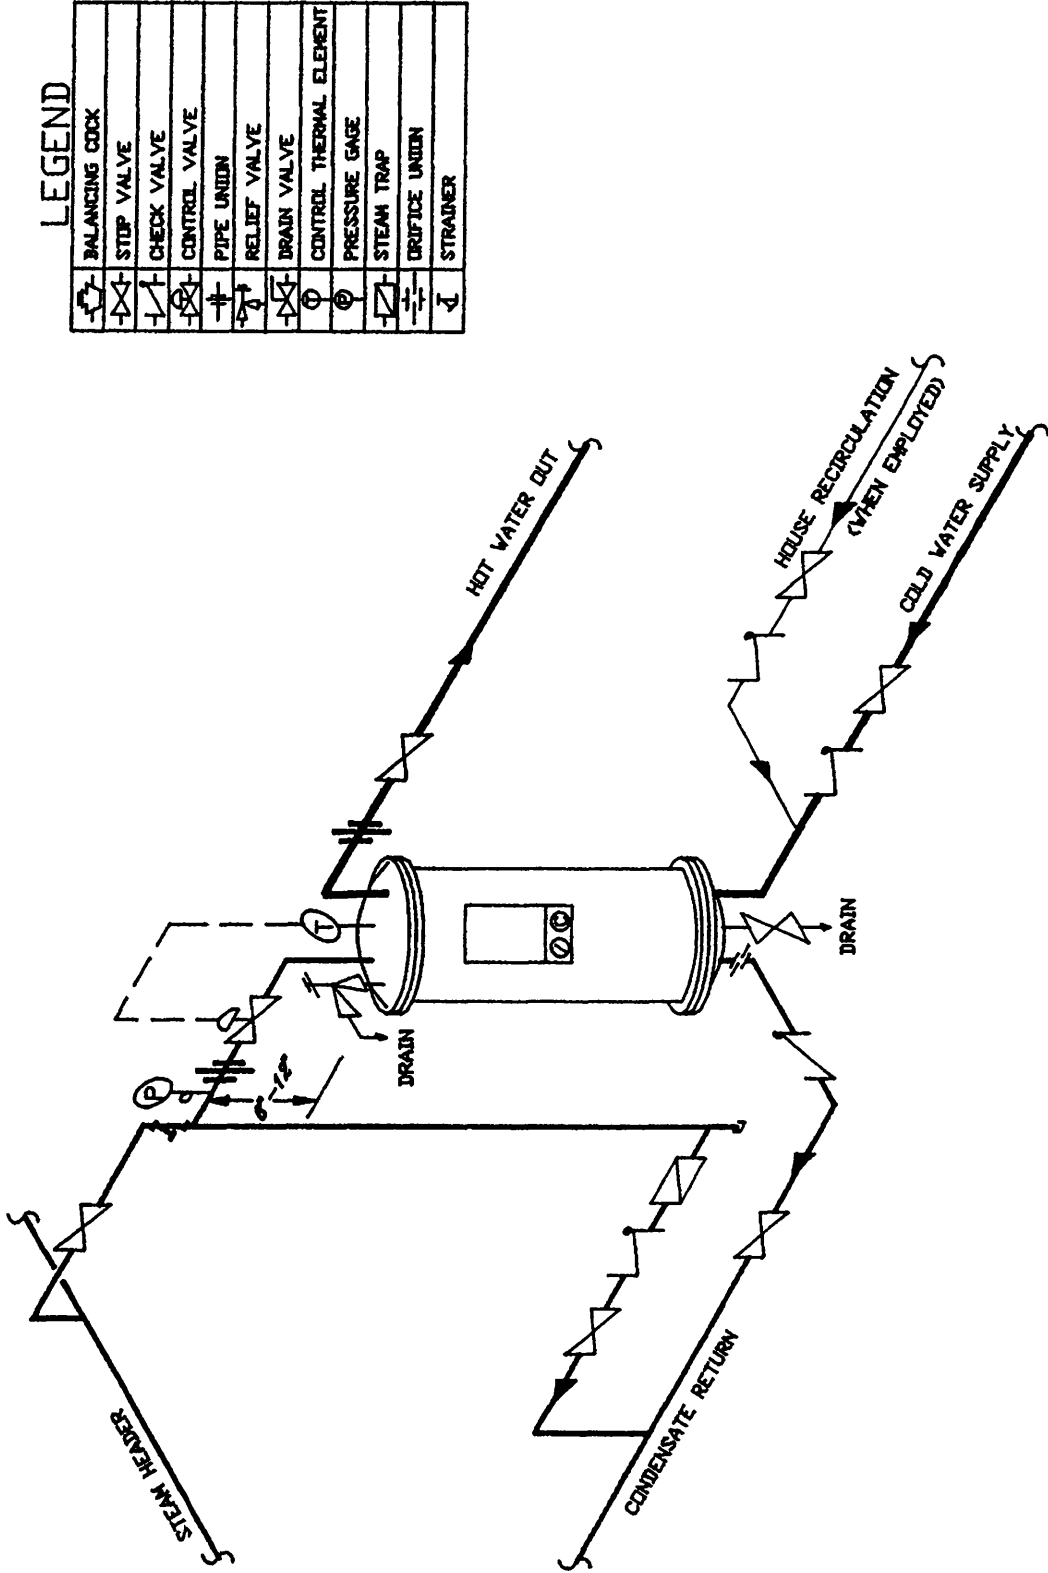

Figure HE-108-4 -- Piping Required for Steam to Water Packaged Heater, Model SW3E-PLUS
- Steam to Water -- Figure HE-108-4
- d. Except for items furnished in the Heater package assembly (see Accessories under GENERAL INFORMATION), include all of the stop valves, check valves, steam traps, pressure gages, and other elements in the piping as shown in the Figure HE-108-4, HE-108-5, or HE-108-6 which applies to your installation, or as separately specified by AERCO. Note that the check valve shown at the Heater in the Condensate return line is furnished in the piping package assembly by AERCO.